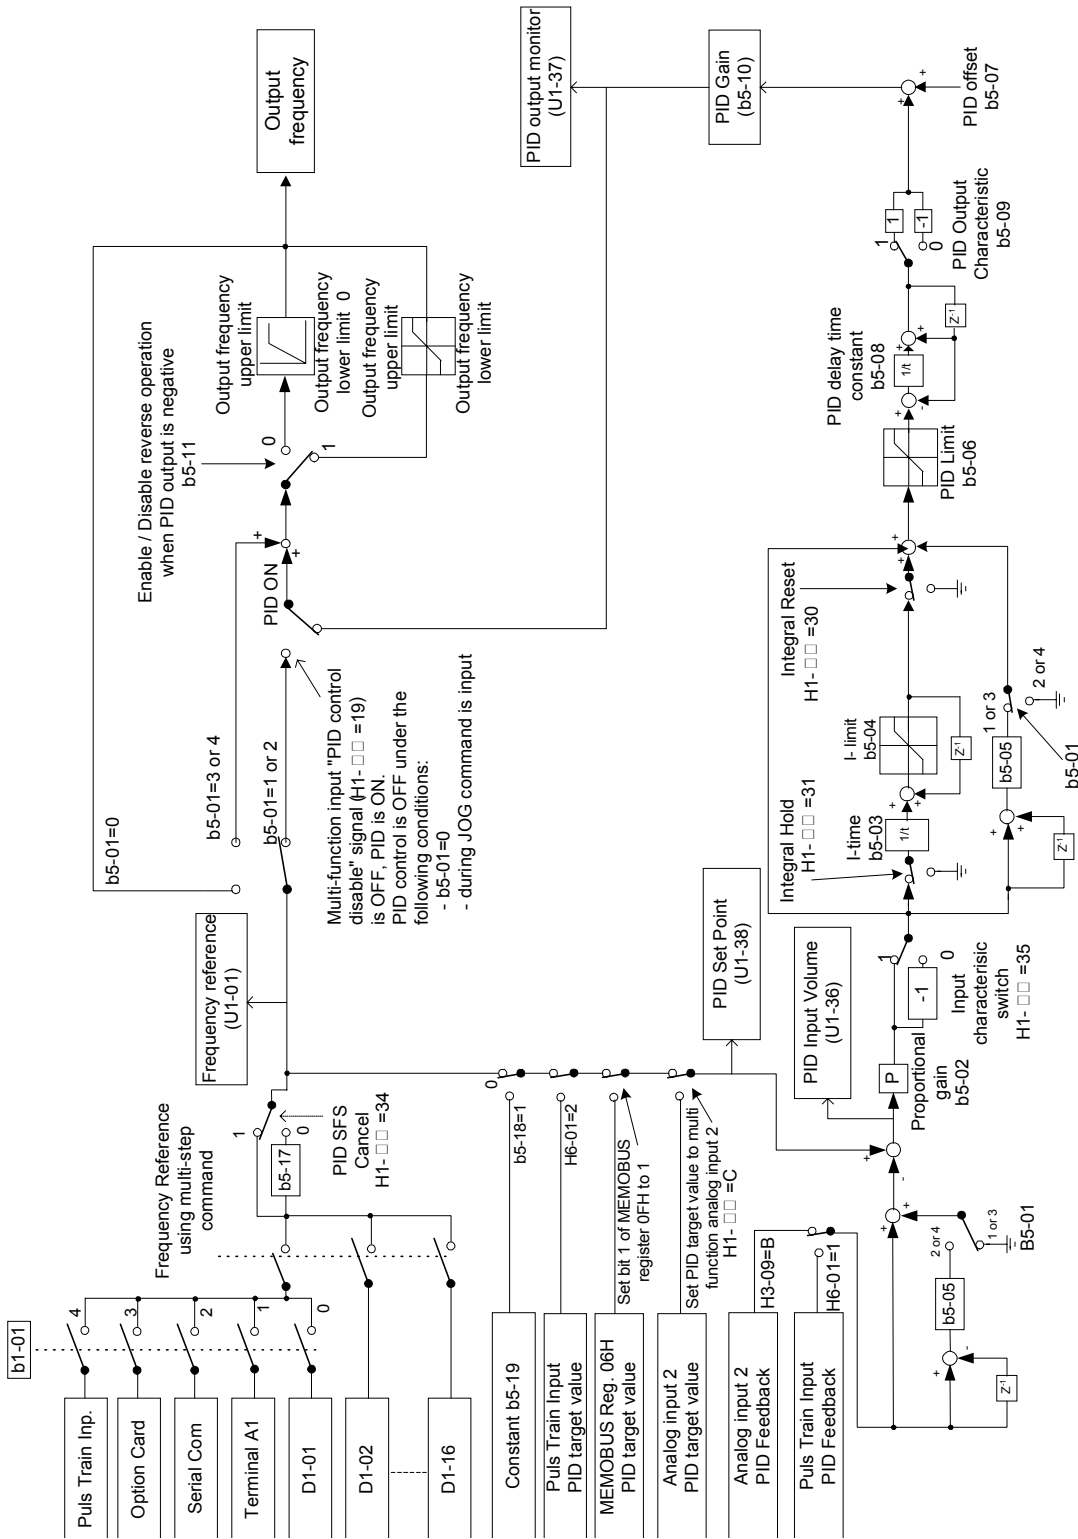

Fig 6.66 PID Control Block Diagram
- Note: The softstarter function works only if the frequency reference input becomes the PID target value (refer to *Fig 6.66*).